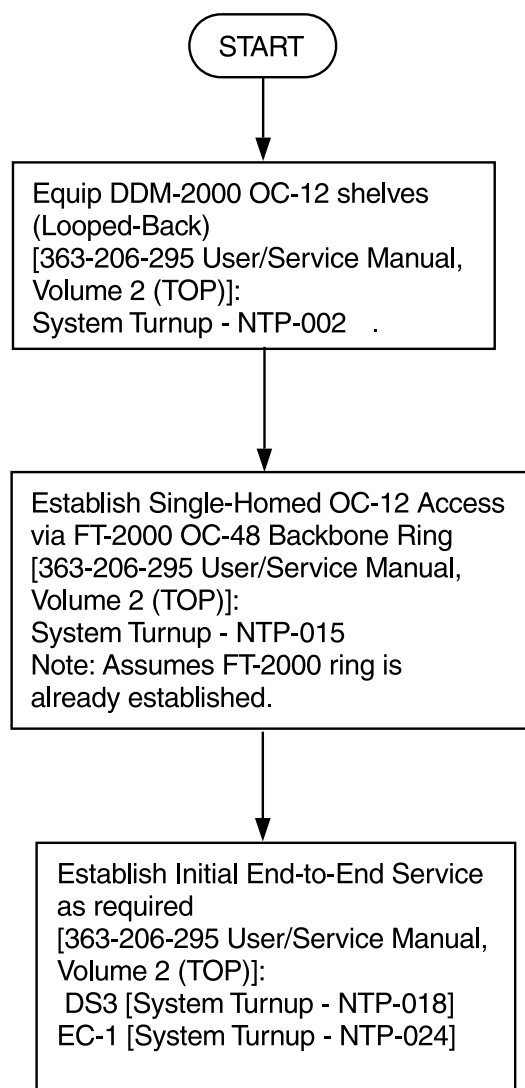

Figure 22. DDM-2000/FT-2000 Large Network Configurations — Single-Homed OC-12 Access via FT-2000 OC-48 Backbone Ring
- Figure 22 Single-Homed OC-12 Access via FT-2000 OC-48 Ring